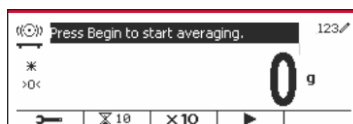

Figure 84
2. Once the value keyed in is displayed in upper left portion of the screen, press the softkey corresponding to the  icon. (See Figure 84)